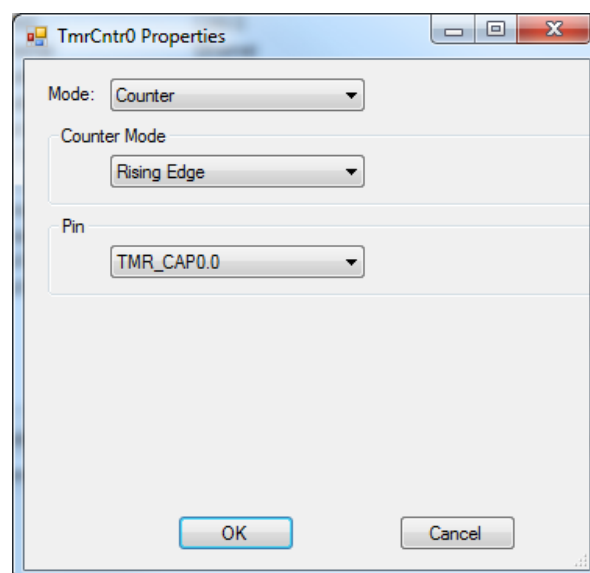

Figure 2-6 - TmrCntrX Properties
6. Select the mode of operation (Mode:) as Free running timer, Counter or Timer. Depending upon the mode of operation, additional parameters may need to be configured such as counter mode or timer mode. Select the desired parameters from the drop-down menus. Refer to Figure 2-6 for an example. Click **OK** to close the *TmrCntrX Properties* window.